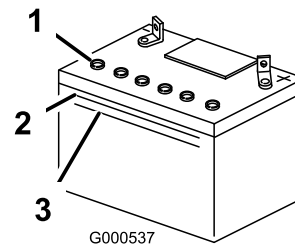

Figure 38
1. Look at the side of the battery. The electrolyte must be up to the **upper line** (Figure 38). Do not allow the electrolyte to fall below the **Lower line** (Figure 38).
3. Remove the vent caps from the battery (Figure 38).
4. Slowly pour distilled water into each battery cell until the electrolyte level is up to the **Upper line** (Figure 38) on the battery case.
5. Wait five to ten minutes after filling the battery cells. Add distilled water, if necessary, until the electrolyte level is up to the **Upper line** (Figure 38) on the battery case.